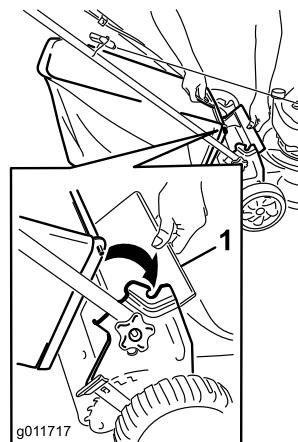

Figure 13
1. Lift up the rear deflector (Figure 13).
2. Insert the grass bag handle onto the notches on the handle brackets (Figure 13).